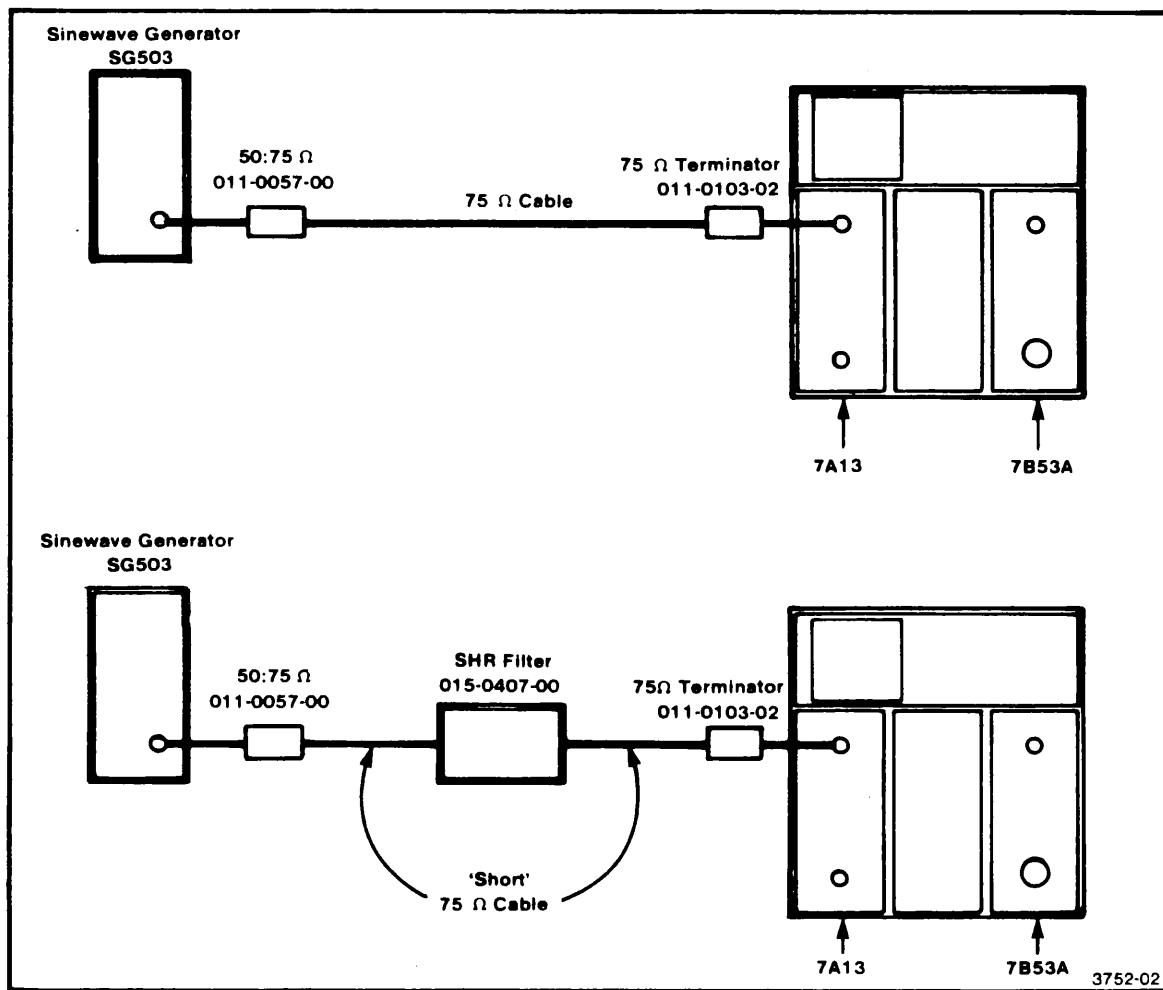

Figure 2. Stop band test setup.
1. Using the equipment listed in Table 4, or equivalent, connect the test setup illustrated in Figure 2.
1. Using the equipment listed in Table 4, or equivalent, connect the test setup shown in Figure 2.